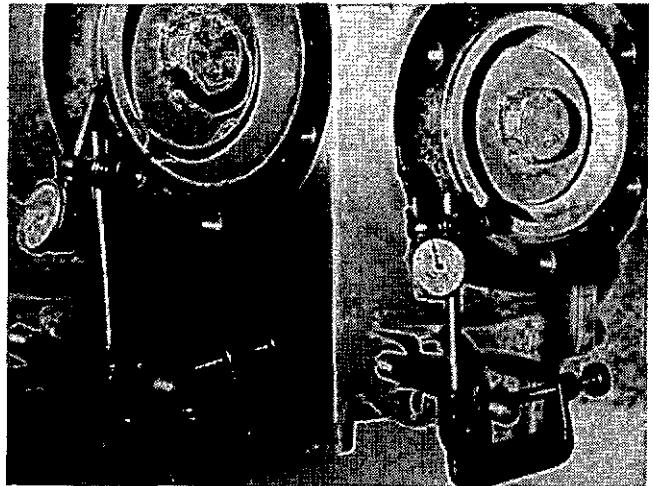

Fig. 1-57 (N114156). Check The Movement Of The Mounting Flange.
2. The outside diameter of the pilot flange must have a common center within 0.004 inch [0.10 mm] with the inside diameter of the pilot bore, Fig. 1-57. The movement of the flange face measured at a radius of 2.75 inch [69.8 mm] must not be more than 0.003 inch [0.08 mm]. Take the measurements after the vibration damper is installed on the engine. When you measure the flange, keep the crankshaft at the far end of the end movement.